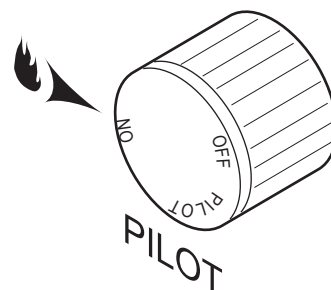

Figure 49 -
Depress and turn the knob counterclockwise ↺ to the “ON” position. *Figure 49*. It will take less than four (4) seconds for the burner to ignite.